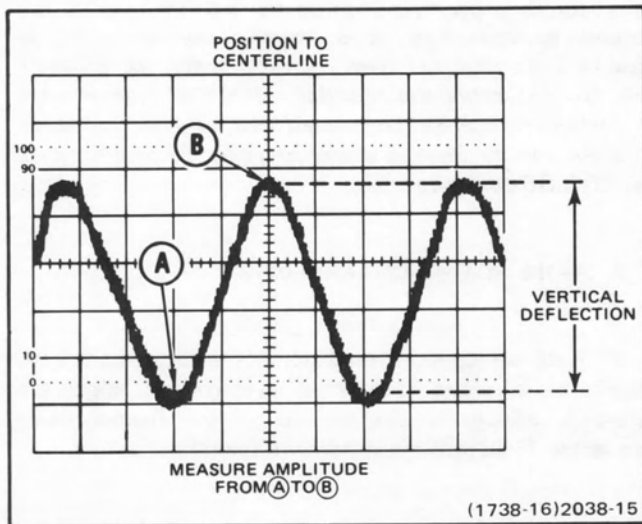

Figure 13. Peak-to-peak waveform voltage.
6. Vertically position the display so that the negative peak of the waveform coincides with one of the horizontal graticule lines (see Figure 13, Point A).
7. Horizontally position the display so that one of the positive peaks coincides with the display center vertical graticule line (see Figure 13, Point B).
8. Measure the vertical deflection from peak to peak (see Figure 13, Point A to Point B).
**EXAMPLE:** The measured peak-to-peak vertical deflection is 4.6 divisions (see Figure 13) with a VOLTS/DIV switch setting of 0.5, using a 10X probe.